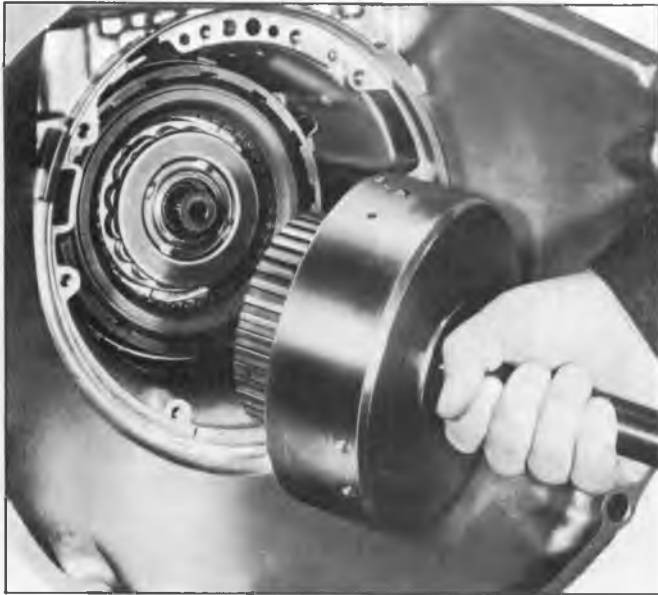

Fig. 22T--Removing Forward Clutch Assembly and Turbine Shaft
5. Remove forward clutch assembly and turbine shaft from transmission (fig. 22T).